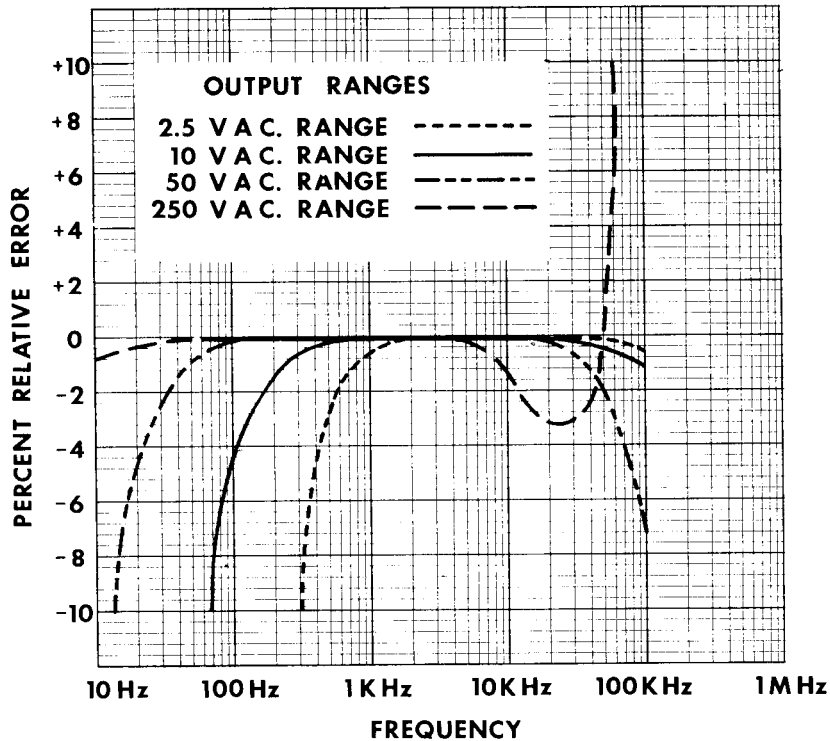

FIGURE 4-4. FREQUENCY RESPONSE OUTPUT RANGES
**4.12.1** It is often desired to measure the AC component of an Output Voltage where both AC and DC voltage levels exist. This occurs primarily in amplifier circuits. The 260-7P has a 0.1 mfd, 400 volt capacitor in series with the OUTPUT jack. The capacitor blocks the DC component of the current in the test circuit, but allows the AC or desired component to pass on to the indicating instrument circuit. The blocking capacitor may alter the AC response at low frequencies but is usually ignored at audio frequencies (Figure 4-4).